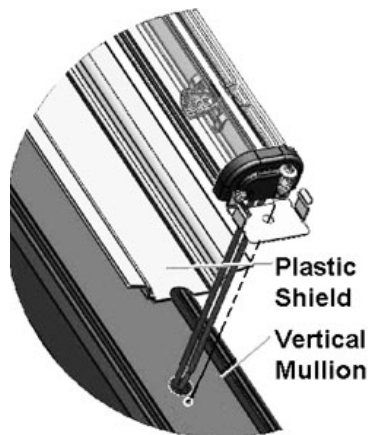
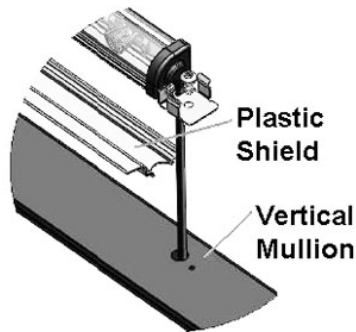

Figure 5. Center
Figure 6. End
7. Position the center punch directly over the vertical line and within the plastic extrusion notched cutout, establish a dimple. Refer to Figure 5. Center.
8. Use a power drill and (3/8") 0.375" dia. drill bit, drill (1) hole.
12. Use a power drill and (1/8") 0.125" dia. drill bit. Drill (2) holes through the LED top and bottom mounting brackets through the plastic extrusion.
- Using a Phillips screw driver, thread a #8 tapping screw through the plastic extrusion. Refer to Figure 5. Center (Center Mullion) and Refer to Figure 6. End (Left End and Right End).